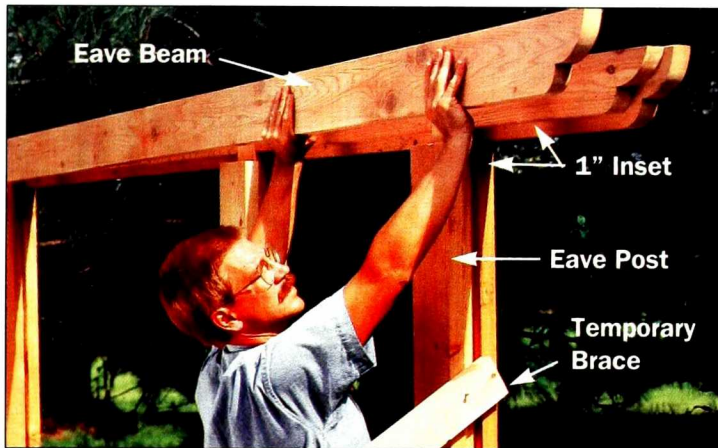

Figure 10: Install eave beams and posts, then plumb and brace them. The narrower center member provides extra strength without looking boxy.
- Plumb and brace the posts in both directions until the rafters are installed (Figure 10).